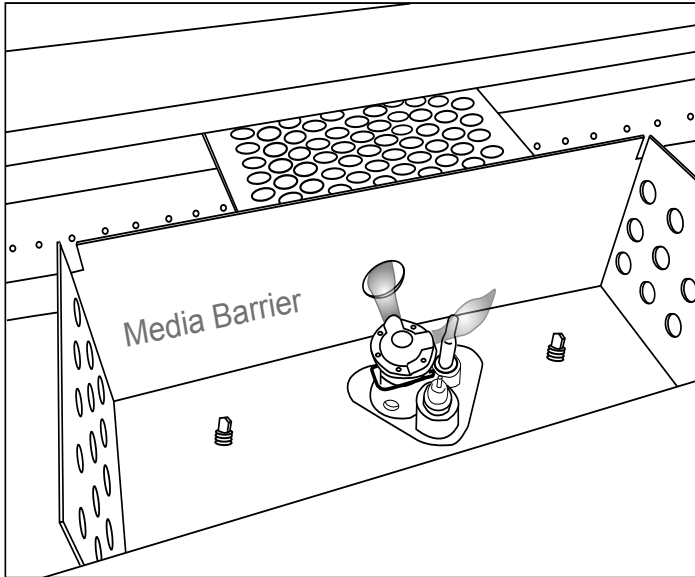

Fig. 33 Proper pilot flame through ignition hole.
Step 23: The pilot assembly is located in the center of the burner. Ensure the pilot flame is passing through the ignition hole, to the burner for proper ignition. Use the Fig. 33 as a guide.